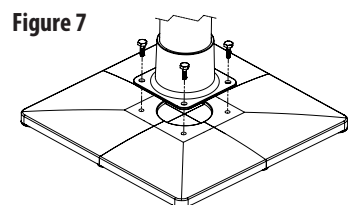

Figure 7
4. Place shower on top of assembled base and line up the bolt holes on the shower's mounting flange with the bolt holes in the base. Insert and tighten the mounting bolts. FIGURE 7